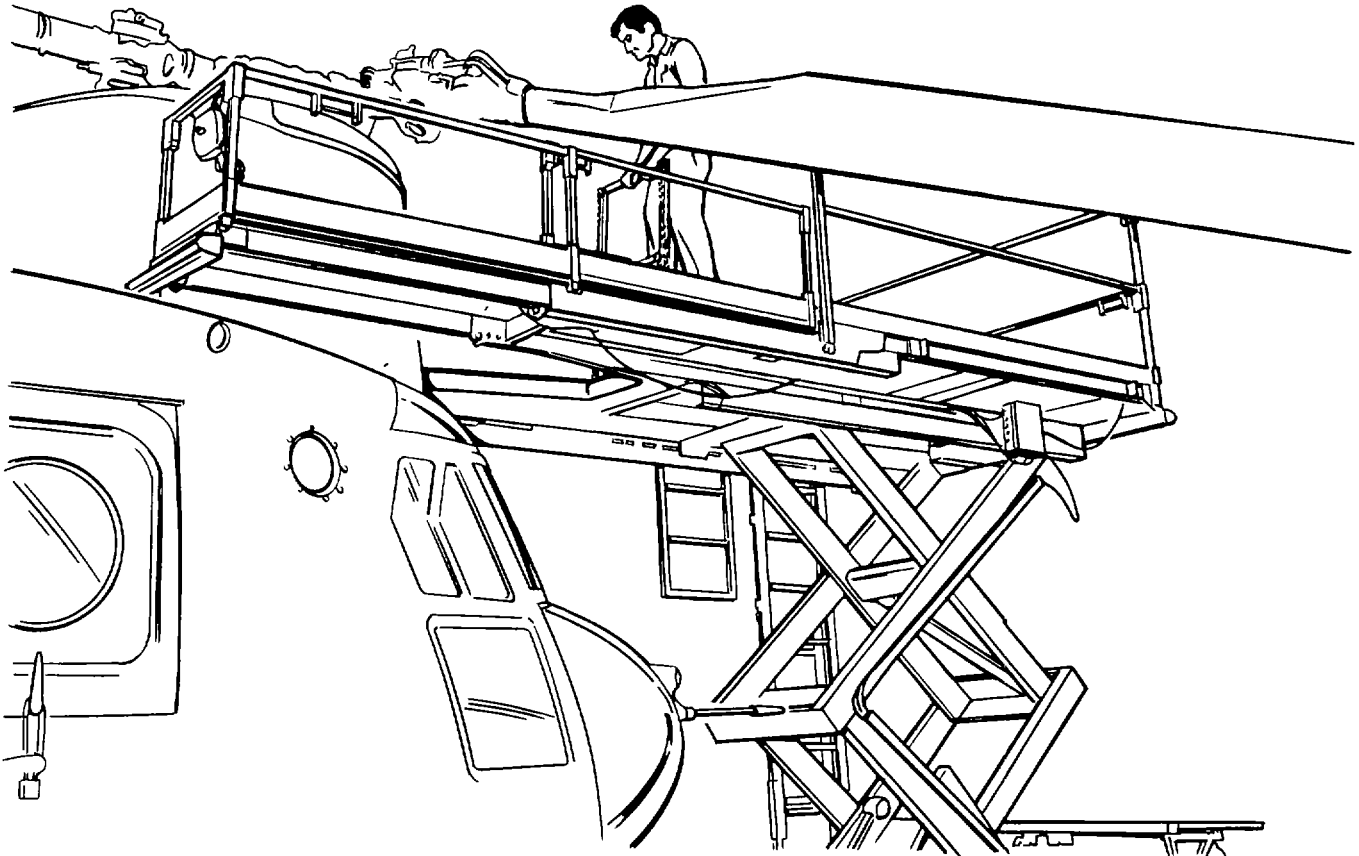

Figure 2-24. Forward Positioning of SPEMS.
(3) Forward Positioning (Figure 2-24):